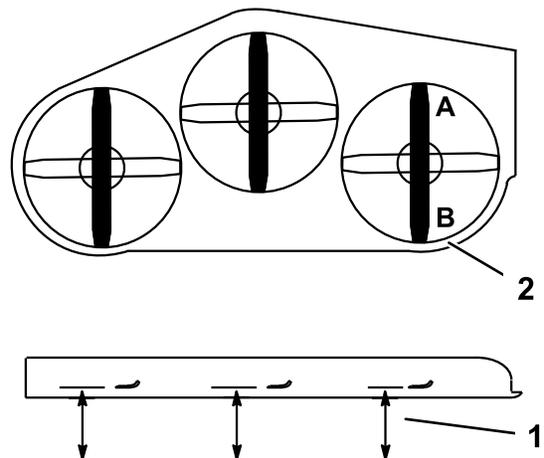

Figure 93
- Position 1 blade front-to-rear. Measure at **A** and **B** locations from a level surface to the cutting edge of the blade tips (Figure 93).